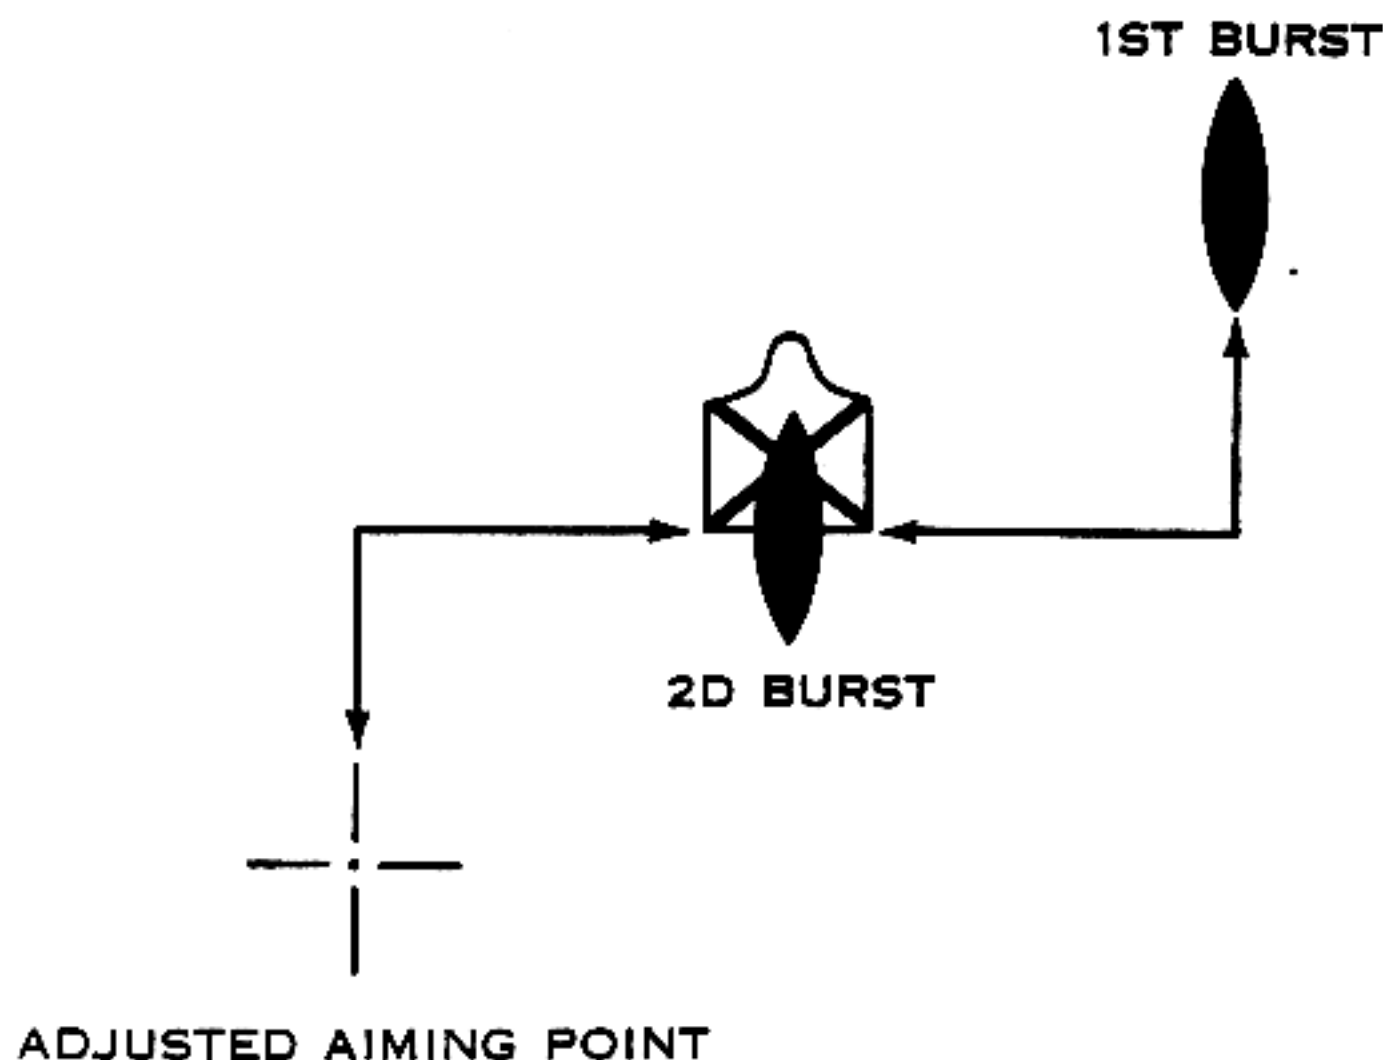

Figure 100. Adjusted aiming point.
b. If the gunner misses the target with his initial burst, he must select a new aiming point on the ground the same distance from the target as the center of impact of the initial burst, but in the opposite direction, and fire a second burst (fig. 100).